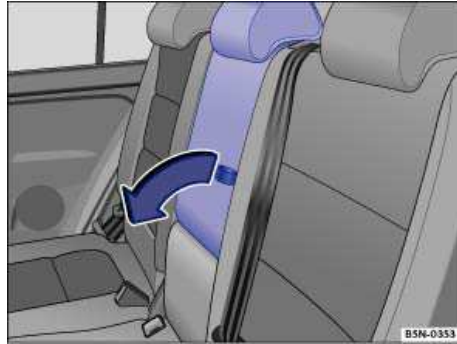

Fig. 103 In the rear backrest: Opening the luggage compartment pass-through.
- Pull the loop in the direction of the arrow ⇒ fig. 103 and fold down center armrest.